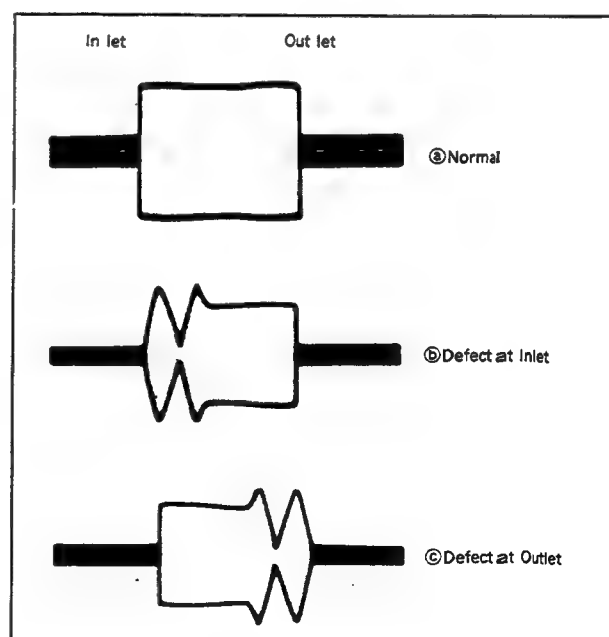

Fig. 35
- 5) Check that a RF waveform is flat at the inlet and outlet of the oscilloscope (Fig. 35 ㉔).
When the RF waveform is not flat at the inlet/outlet ; See Fig. 35 ㉕ and ㉖.